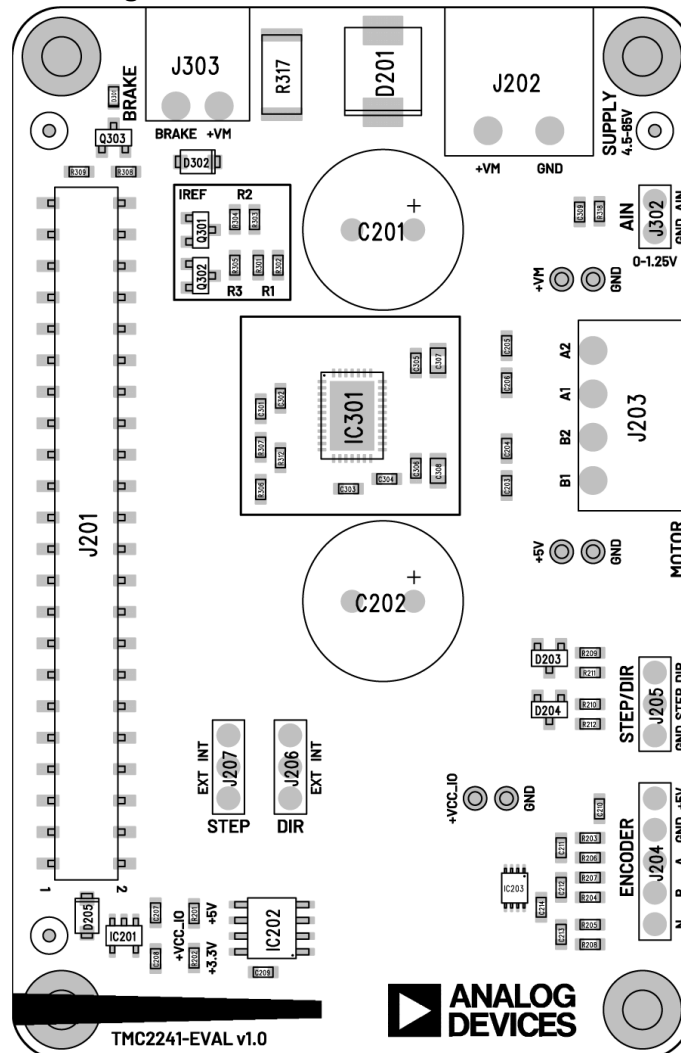

Figure 5. TMC2241-EVAL Component Placement and Silkscreen
2. Plug the selected motor to connector J203, which is labelled as **MOTOR** on the board's silkscreen (Figure 5). Observe the correct order of the A1, A2, B1, and B2 motor phases.
3. (Optional) Plug the ABN encoder to pin header J204, which is labelled as **ENCODER**, on the board's silkscreen (Figure 5).
5. Plug the power supply cable to connector J202, which is labelled as **SUPPLY**, on the board's silkscreen (Figure 5). Make sure the power supply is off before connecting it to the board and the polarity is correct.
The TMC2241-EVAL has one power, one motor connector, and three pin headers. These can be found in the component placement drawing in Figure 5 and are described in Table 2.
In addition to the connectors shown in Table 2, some unpopulated THM test points are available in the TMC2241-EVAL. See the component placement drawing in Figure 5. The additional connectors are described in Table 3.